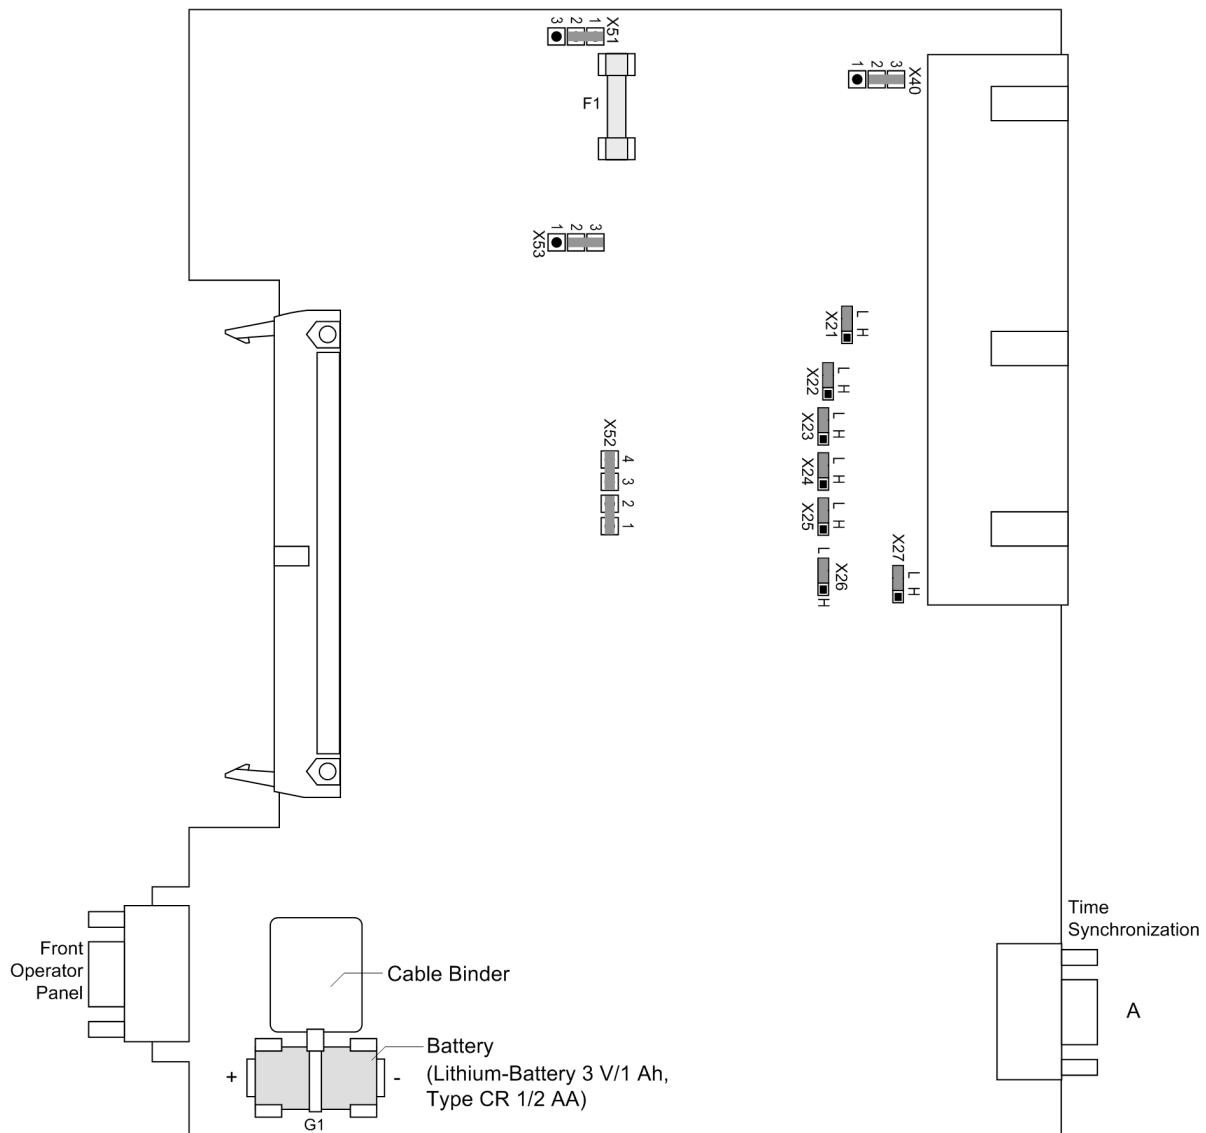

Figure 3-3 Processor printed circuit board B-CPU for devices up to release.../DD with jumpers settings required for the board configuration
Spare Parts	Spare parts can be the buffer battery that provides for storage of the data in the battery-buffered RAM when the supply voltage fails, and the miniature fuse of the internal power supply. Their spatial position is shown in the figures of the processor boards (Figure 3-3 and 3-4). The ratings of the fuse are printed on the board next the fuse itself. When exchanging the battery or the fuse, please observe the information in the /1/, Chapter "Maintenance" and "Corrective Action / Repairs".
- Check the jumpers in accordance with Figures 3-3 to 3-6 and the following information, and as the case may be change or remove them.